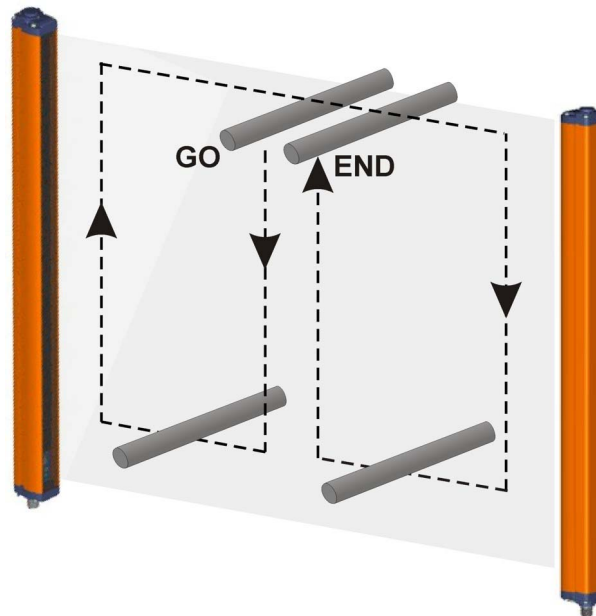

Fig 19 - Path of the test piece
- ESPE remains blocked (➡ lit RED) intercepting the beams along the protected area using the specific test piece, following the scheme in **Fig 19 - page 26**.